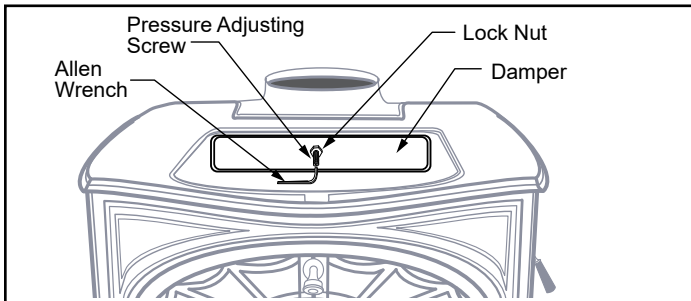

Figure 6.2 - Adjust the damper with the Allen wrench.
1. Remove the griddle. Loosen the lock nut at the center of the damper, Figure 6.2.